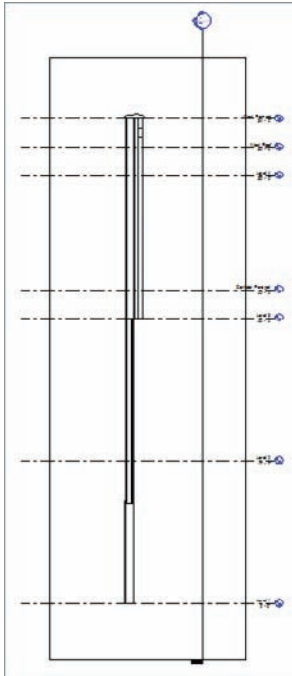

FIGURE 3.55 The finished wall section
10. Change the detail level to Fine. Your section should look like Figure 3.55.